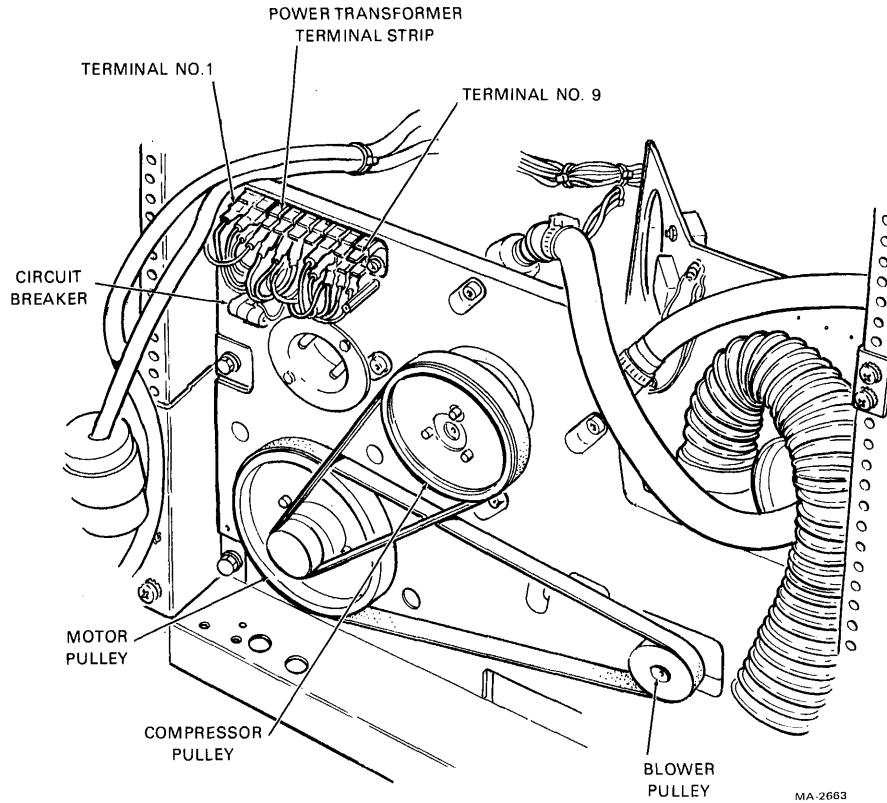

Figure 2-8 Rear of Power Pack with Pulley Cover Removed
4. Remove the cover from the power transformer terminal strip (Figure 2-8). (The ac input plug on the power pack must also be removed.) Check that the blue, brown and white/red wires are connected to the lower terminals as shown in Table 2-1. The terminals are numbered 1 through 9 from left to right.
6. Remove the pulley cover from the rear of the transport power pack (Figure 2-8) and check that the ac motor pulley is the proper one for the source frequency and altitude as shown in Table 2-2. The variation of the vendor part number is stamped on the pulley. Spin the ac motor pulley by hand and check that the blower and compressor belts are tight and track properly. Replace the pulley cover.
4. Remove the cover from the power transformer terminal strip (Figure 2-8). (The ac input plug on the power pack must also be removed.) Check that the blue, brown and white/red wires are connected to the lower terminals as shown in Table 2-1. The terminals are numbered 1 through 9 from left to right. Replace the cover and connect the power pack connector.